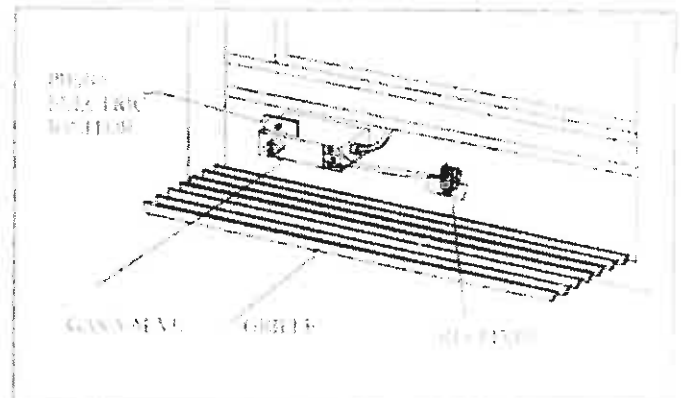

Fig. 2
The receiver is to be mounted at the Gas Valve (Fig.2). Both the transmitter and receiver require an alkaline 9-volt battery (not included), which gives approximately one year of service, under normal use.
B. WIRING MILLIVOLT GAS VALVE (Fig 2)